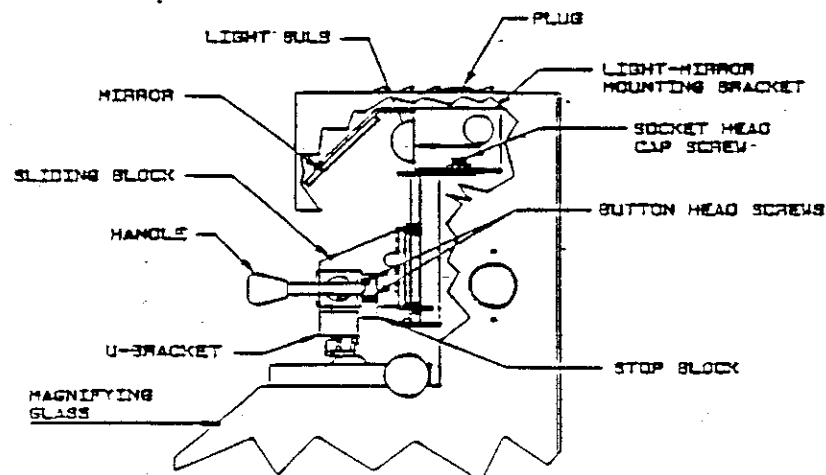

Figure 3-2 Adjustments
C. REPLACING THE LIGHT BULB (See Figure 3-2)
2. If the 3 dots are offset by an equal amount, there is no need for an axis adjustment, but the up and down adjustment screw has to be adjusted (Figure 3-2). If one side is not lined or if the axis of the Block is not parallel with the 3 dots on the lens, then axis adjustment is needed.